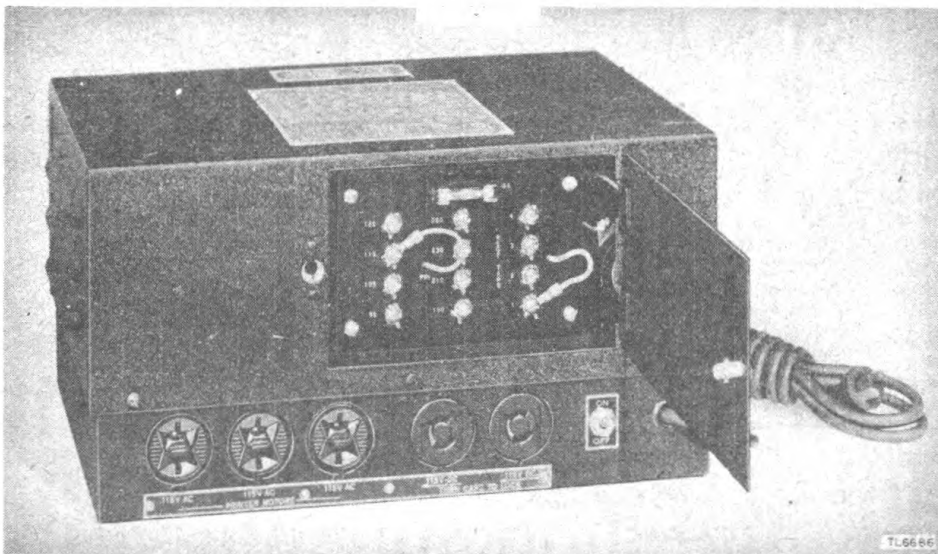
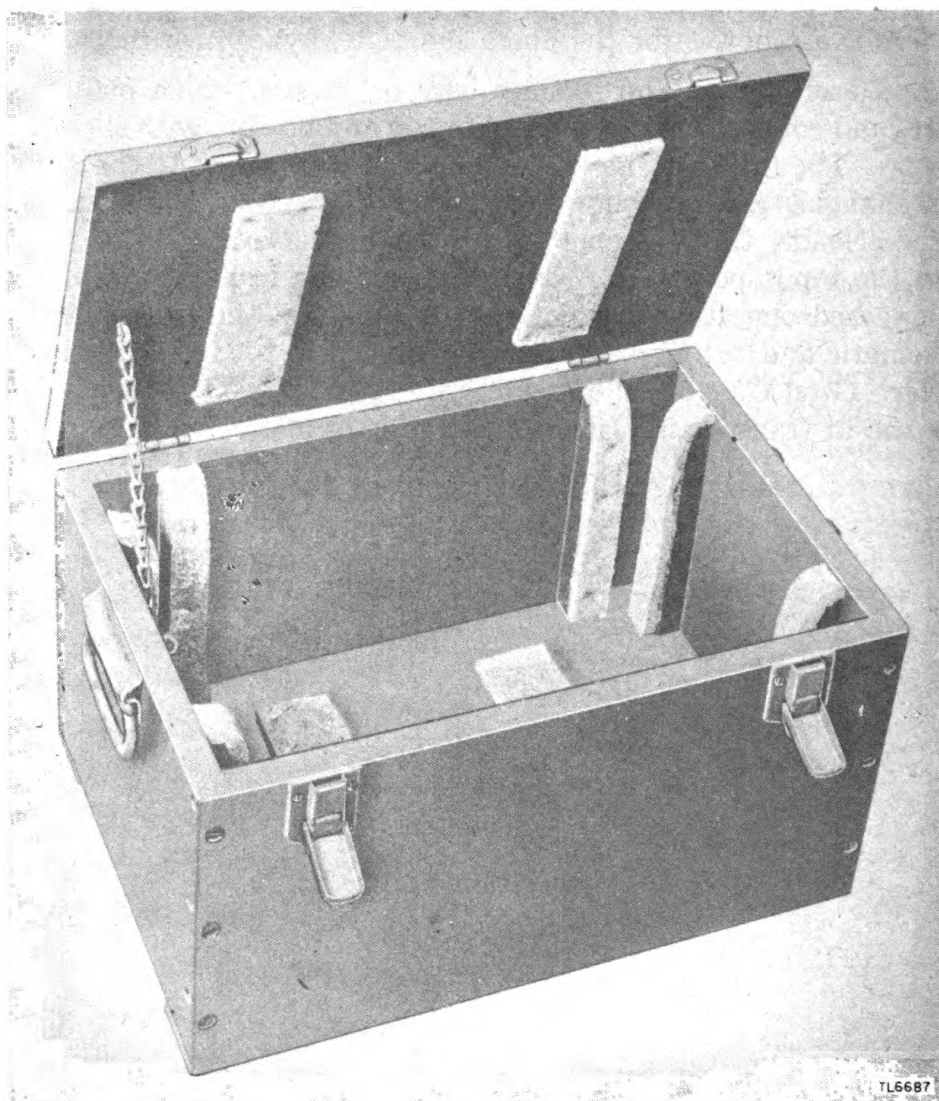

FIGURE 1.—Rectifier RA-87, front view with door opening showing tap-changing panel.
FIGURE 2.—Chest CH-158.
2. **Description.**—The rectifier base or chassis, which mounts all parts and connections, is enclosed at top and bottom with sheet steel covers. The top cover has a small door to give access to the voltage tap-changing panel, as shown in figure 1. Two twist-type receptacles for d-c loads, three receptacles for a-c loads, an OFF-ON switch, and the input power cord are located on the front of the chassis. Condensed operating instructions are given on the top cover, and schematic and wiring diagrams are fastened to the inside of the top cover. *Chest CH-158*, shown in figure 2, provides a protective box for use in transporting the rectifier and technical manuals.